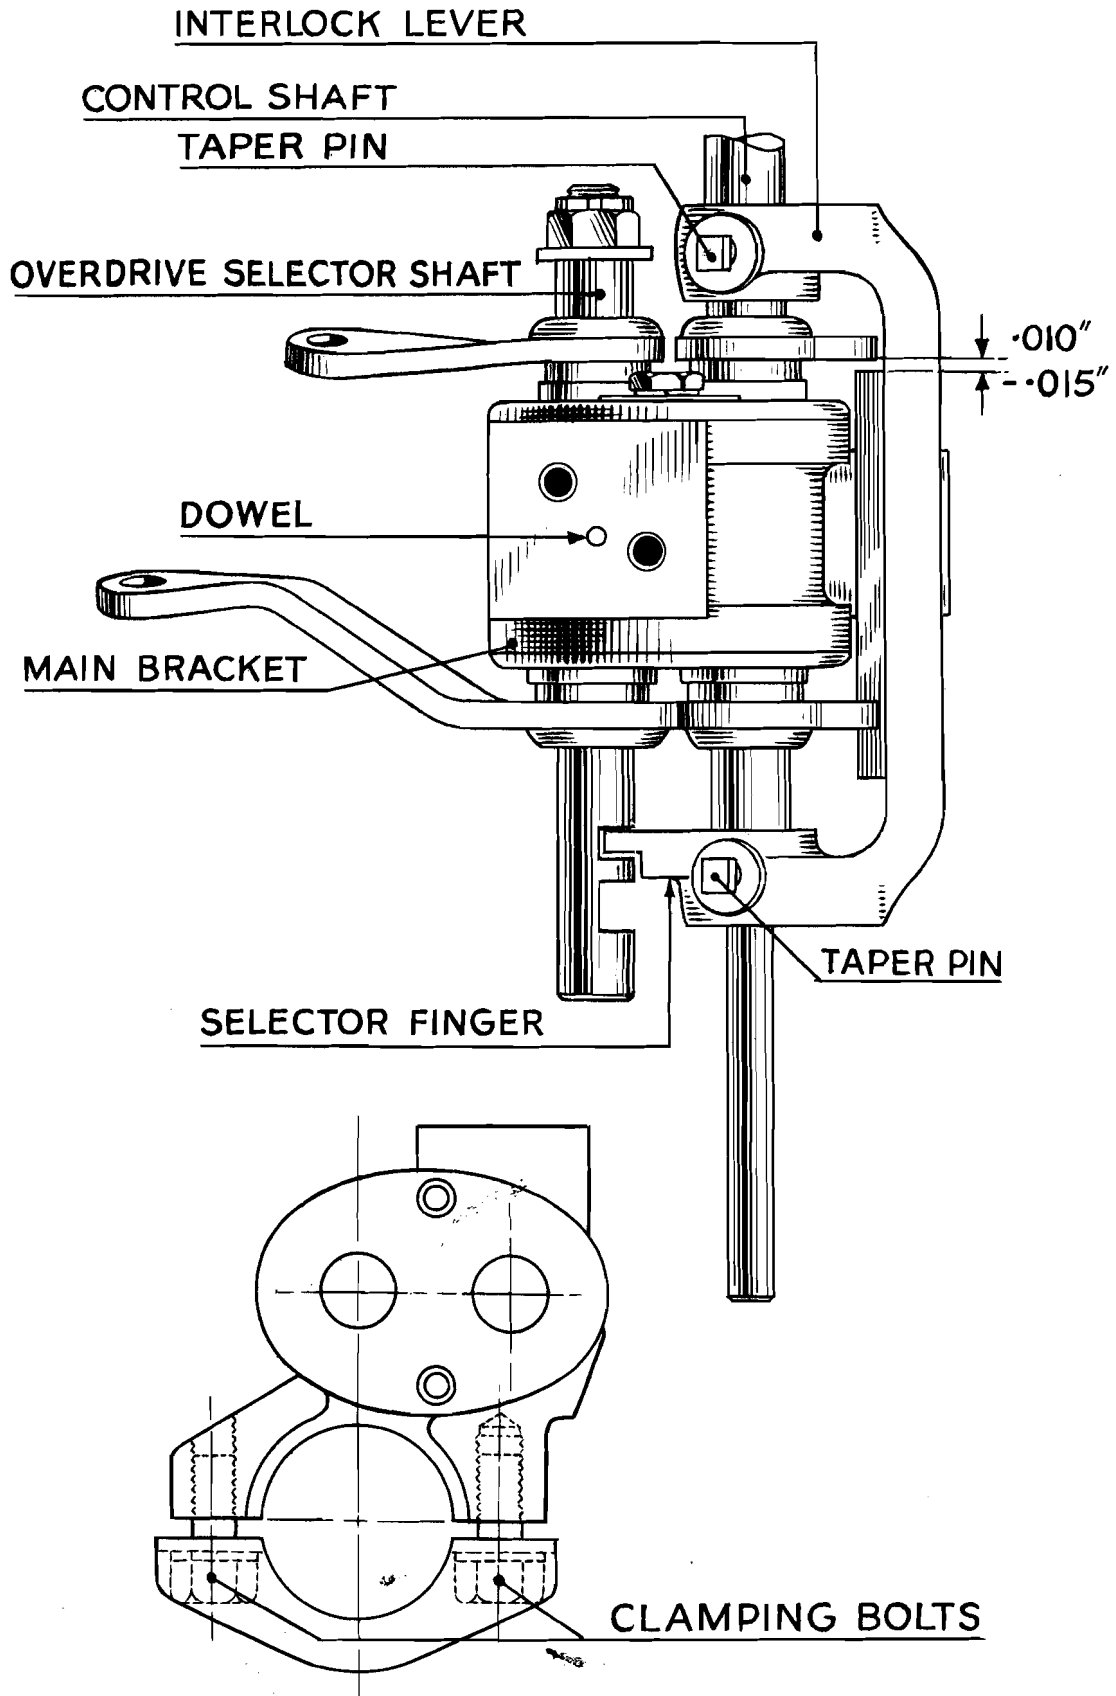

Fig. 11. Showing correct clearance on interlock lever spline with hand lever held (as shown in Fig. 10).
23. Remove reverse switch bracket and the dowel shown in Fig. 11 so that the overdrive selector shaft can be rotated.
24. Feed the intermediate bracket on to the steering column, passing the control shaft through the interlock lever (See Fig. 11). Insert taper pins and secure. Placing this assembly in a vertical plane tap it into position until there is a clearance of $.010$ — $.015$ " between the "Second" and "Top" quadrant and interlock key as shown in Fig. 11. Secure the clamping bolts shown in illustration.
33. Fig. 11 and then engage "Top" Gear by moving the hand lever.